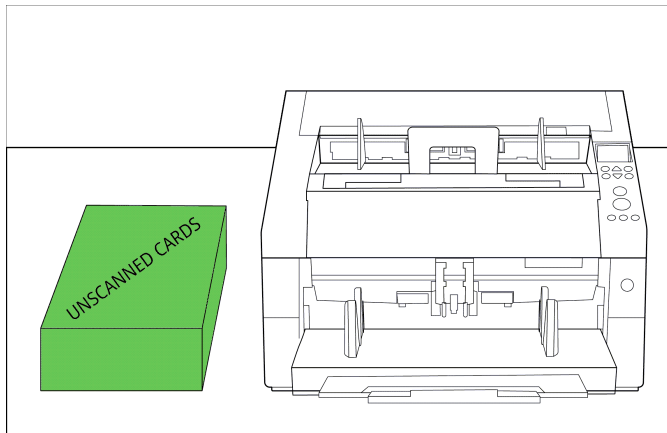

Figure 5-8. Transferring unscanned cards from the input tray to the deck on the left side of the table
3. Take the unscanned cards from the input tray and transfer them back to the top of the unscanned deck on the left side of the table (Figure 5-8).